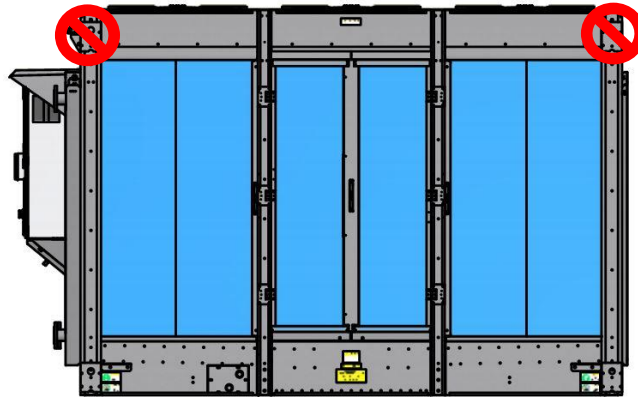

Figure 2. Incorrect Lifting Locations
- **⚠ WARNING**: Attachment point shown in **Figure 2 IS FOR FACTORY USE ONLY**. A heavy load can fall and cause severe injury, possible death, and property damage. Only use the lift points designated in Rigging & Assembly Instructions.
- Do not lift equipment from upper attachment points as shown in **Figure 2**. **THIS LIFT POINT IS FOR FACTORY USE ONLY.** A heavy load can fall and cause severe injury, possible death, and property damage. Only use the lift points shown in the rigging drawings listed in **Table 1**.